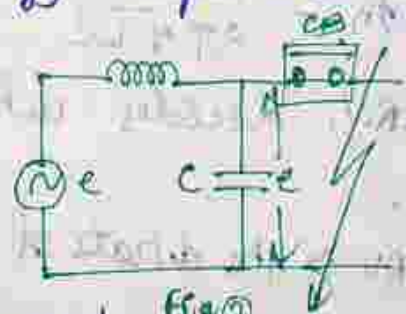

Fig 2
→ Fig 2 shows these two possibilities
- Fig 2 shows the equivalent ckt, where L & C are the per phase inductance & capacitance of the system.
① Rate of rise of re-striking voltage.